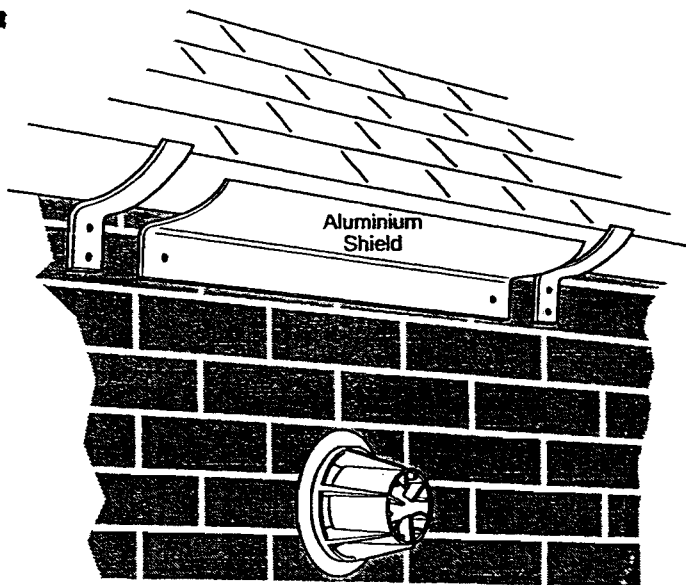

Fig. 9
3. If the terminal is fitted within 1 metre (39 in) of a plastic gutter, within 500mm (19½ in) of a painted eave or a painted gutter, an aluminium shield of at least 1 metre (39 in) long should be fitted to the underside of the gutter or painted surface. An air space of 5mm (⅞ in) should be left between shield and gutter (Fig. 9).